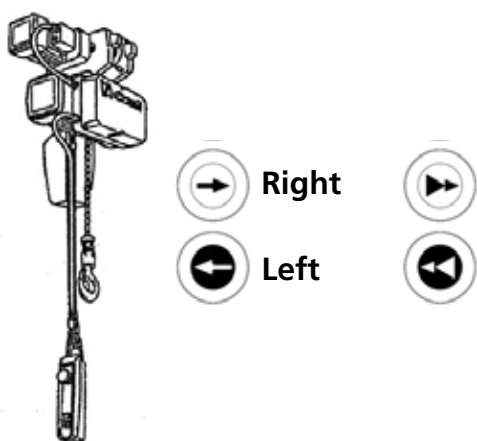

fig.46
- ▶ If the hoist is equipped with an electric carrying trolley, press the 'right/left' buttons (fig. 46) and check that the trolley moves in the corresponding directions.